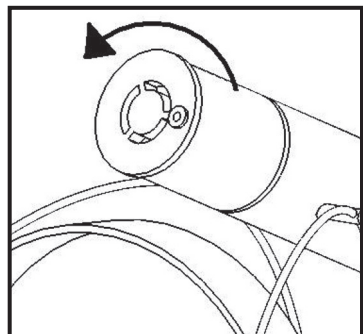

Figure 5. Removal of v600 Illuminator Module
- 4) Remove the old Illuminator Module from the optics tube by rotating it counter-clockwise as shown in Figure 5.
IMPORTANT! Do not force the new Illuminator Module into the optics tube. If you are having difficulty installing the new Illuminator Module, rotate it counter-clockwise one turn and then re-attempt to gently screw it into the optics tube. Figure 5: Removal of v600 Illuminator Module.